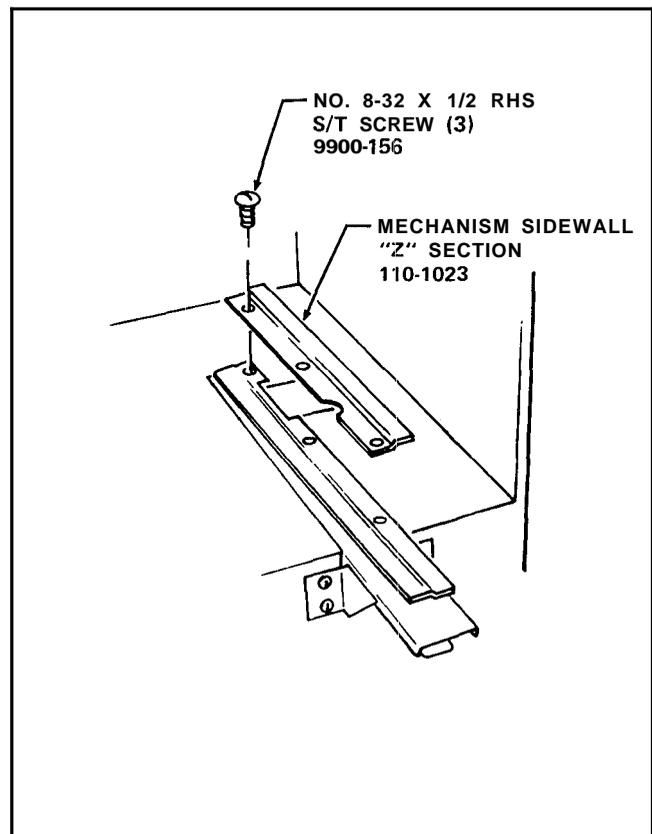

FIGURE 4-7
49. Remove three Screws from the Mechanism Sidewall "Z" Section in the lower right corner of the Merchandiser and install the Mechanism Sidewall "Z" Section, Part Number 110-1023 included in the Kit, on top of the Mechanism Sidewall "Z" Section already in the Merchandiser. Attach using three No.8-32 x 1/2 RHS Self Tapping Screws, Part Number 9900-156, included in the Kit. See Figure 4-7.